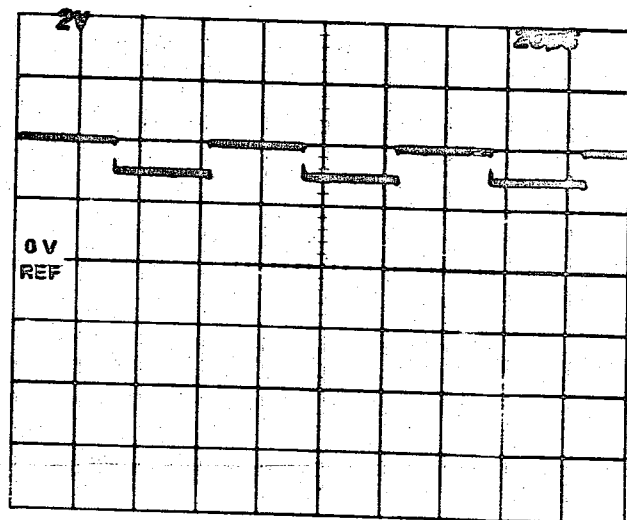

Fig. 6-4. Probe to Pin 5 of U455.
10. Change the test oscilloscope Amplifier to 2 V/Div and move the 0 V reference to the Horizontal centerline. Connect the probe to Pin 5 of U455 on the Horizontal board. Trigger the test oscilloscope for a waveform. This waveform should be similar to that shown in Fig. 6-4.